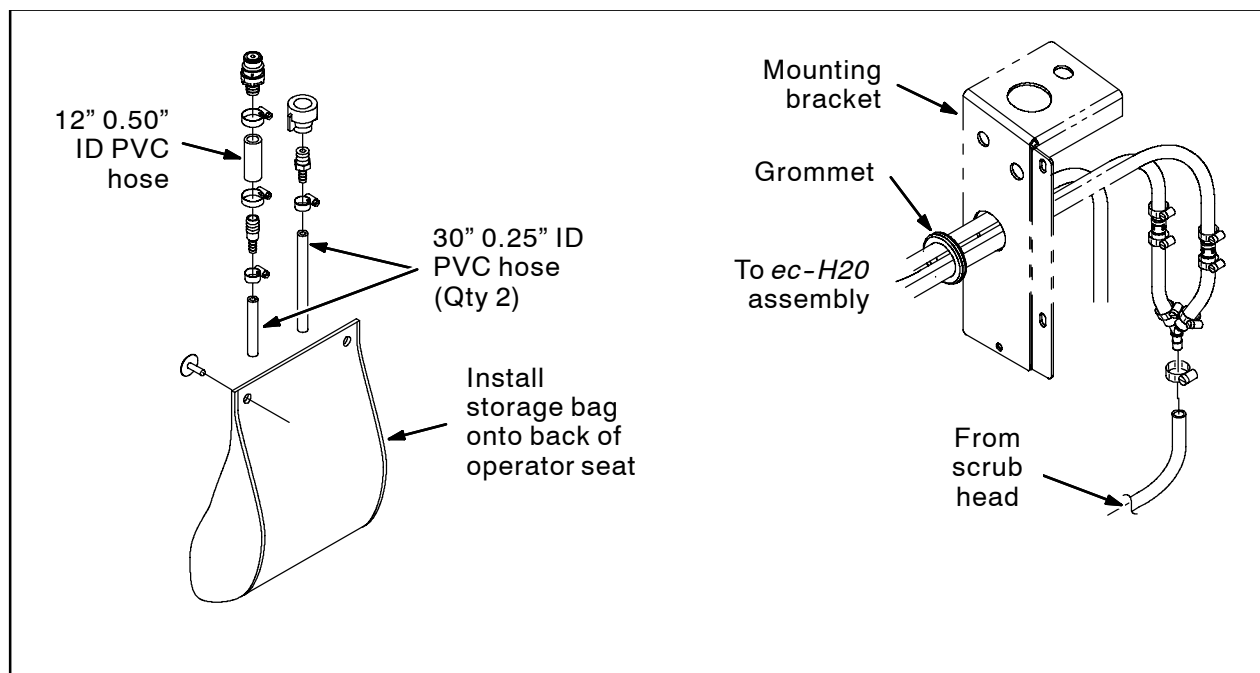

FIG. 18
71. Install the grommet into the mounting bracket. Refer to Fig. 18.
75. Install the storage bag onto the back of the operator seat. Refer to Fig. 18.
76. Assemble the *ec-H20* flush hose assemblies. Refer to Fig. 18.